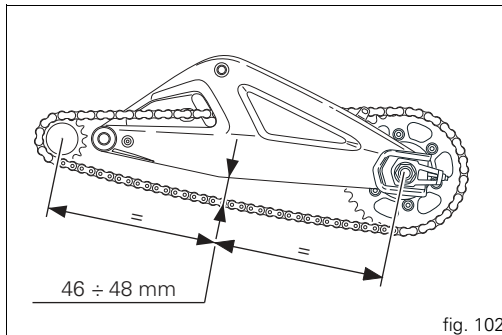
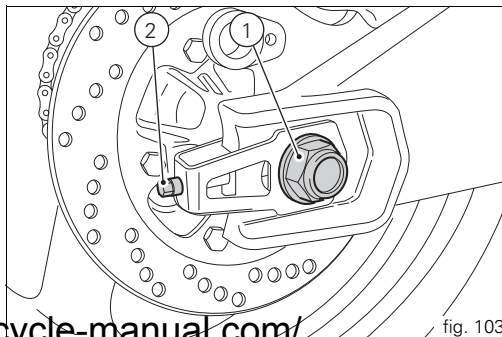

fig. 102
fig. 103
Turn the rear wheel slowly to find the position at which the chain is at its most taut. With the motorcycle on its sidestand, press with a finger in the centre of the bottom run of the chain and measure the distance between the centres of chain link pins and the aluminium swingarm. The distance should be within 46 to 48 mm (fig. 102). To adjust the tension loosen the wheel shaft nut (1, fig. 103), tighten the screw (2) to the same torque in the opposite direction on both sides of the swingarm in order to increase the tension or loosen to reduce it. In the latter case, you will need to push the wheel forward.
Correct tightening of swinging arm screws (1, fig. 103) is critical to rider and passenger safety.